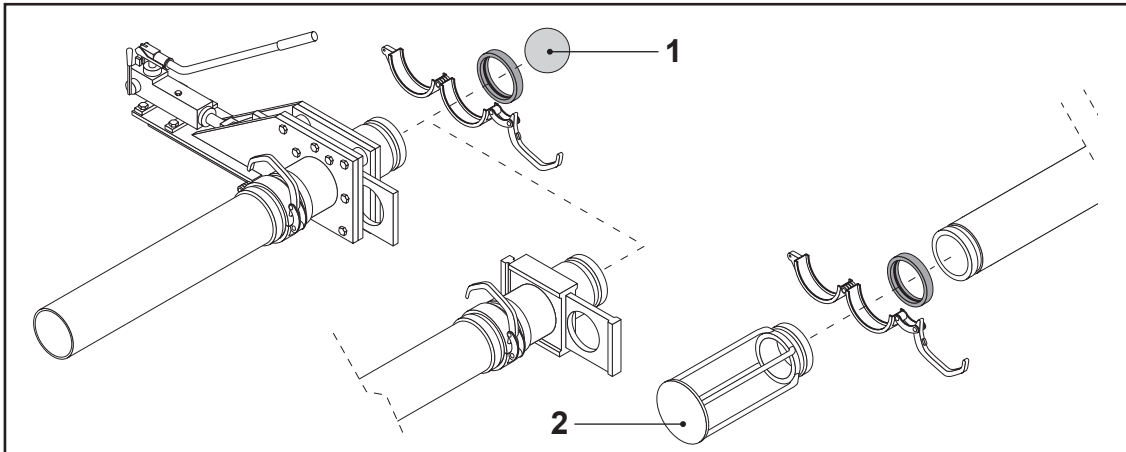

FIG. 52
- Soak a pipe sponge (FIG. 52-REF. 1) and put it inside the pipe.
- Connect the basket (FIG. 52-REF. 2) designed to catch the sponge to the end of the hose using a Victaulic coupling complete with rubber gasket.